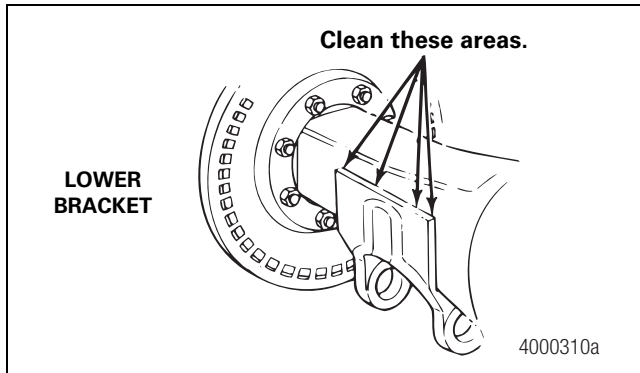
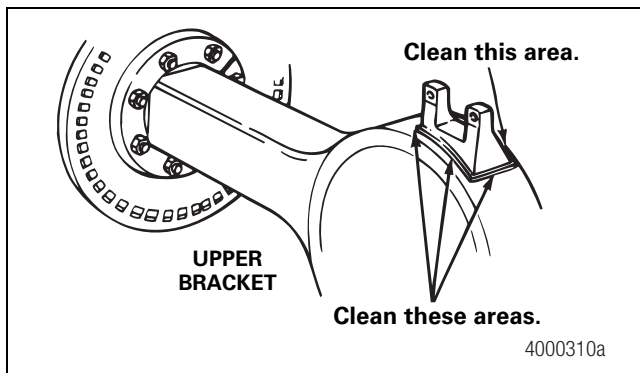

Figure 4.9
Figure 4.10
- For suspension bracket welds, clean both lower and upper suspension brackets and the areas of the axle housing around each bracket. Use a wire brush and a cleaning solvent that will remove dirt and grease from these areas. Figure 4.9 and Figure 4.10.